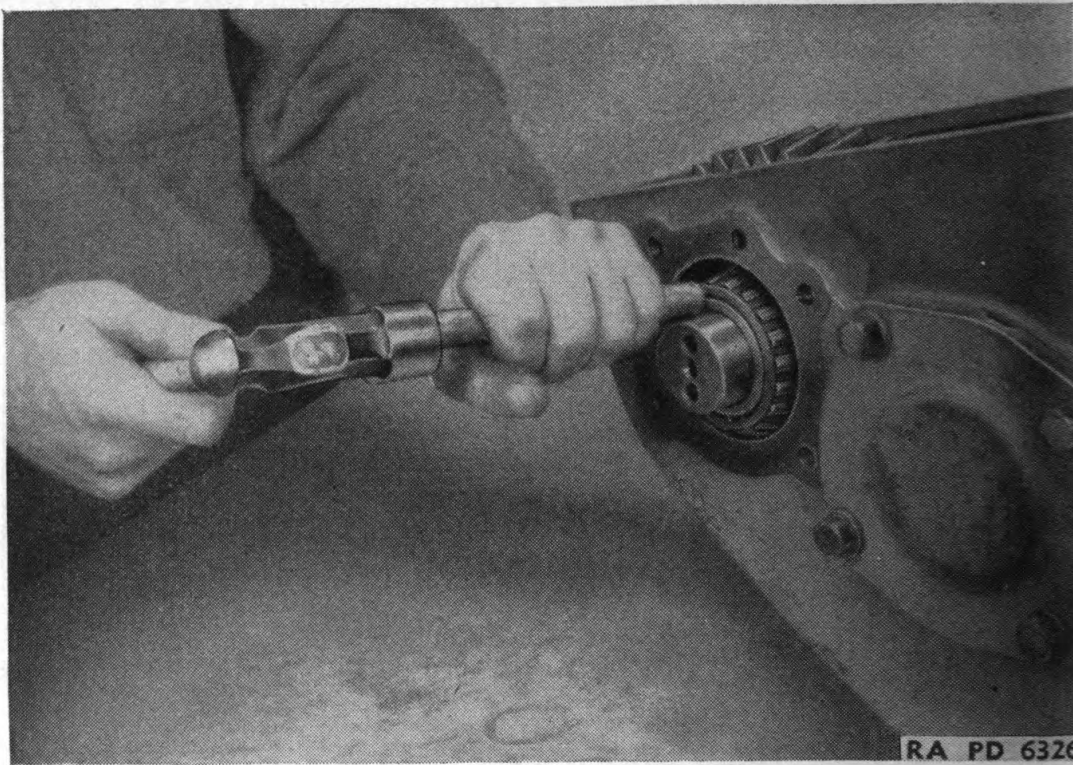

FIGURE 137.—Transfer case front-drive shaft rear bearing cone replacement.
(15) Replace front-drive shaft front and rear bearings—brass drift, hammer. Replace front and rear bearing cones and cups by driving in place (figs. 137, 138, and 139).
(16) Replace front-drive shaft front bearing cap—oil seal replacer, hammer,  $\frac{5}{8}$ -inch socket wrench. Replace new oil seal in